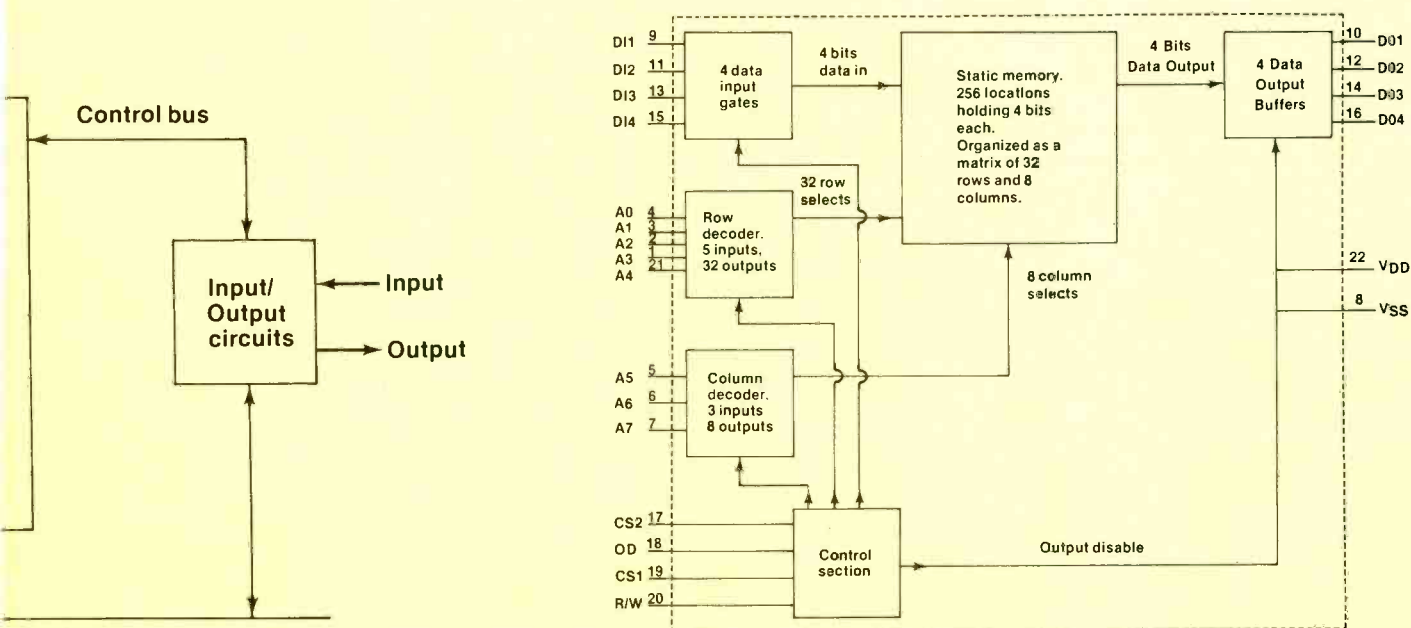

Figure 3. A simplified version of the internal organization of a 256 X 4 static RAM.
an RCA CDP1822 RAM with industry-conventional labeling and abbreviations. Figure 3 shows a simplified schematic of the internals of the RAM chip. There are a few facts that need to be noted for Figures 2 and 3. Many RAMs have had more than one terminal for the same function, because, in some cases, one terminal is active when it is in the high state, while the other is active in the low state. In other cases, both terminals must be in a definite required state. In still other cases, one terminal is edge triggered on a rising pulse, while the other terminal is level triggered; the difference is that the edge-triggered input always catches the start of the pulse, while the level-triggered input is less definite about timing but is somewhat delayed as compared to edge-triggered input. These various inputs are in accordance with the timing needs of the particular memory used and the various terminals being driven, in the sequence required by the order of operations within the RAM.
Let's look at the various pinouts in Figure 2. (They will also be useful in understanding the simplified internal diagram of Figure 3.) Because this particular RAM stores a 4-bit word, it requires a data bus of 4 bits (4 wires), and therefore has 4 Data Inputs (DI) and 4 Data Outputs (DO). In order to handle 256 different addresses we need an 8-bit address bus (A0 through A7). There is also a Read/Write input for control purposes (RW), and two terminals for power supply drain and source voltage (VDD and VSS). Further, there are two Chip Select terminals (CS1 and CS2) which are used to enable the chip or (in the case of a large memory bank made up of many such chips) to select one or more chips of many. Finally, there is the Output Disable terminal, which controls the tristate output buffers, controlling them on or off to facilitate the control of information flow in the bi-directional data bus.
With this in mind, we can better understand Figure 3, which is the same RAM but shown in simplified internal structure, illustrating what is tied to the pinouts inside the chip.